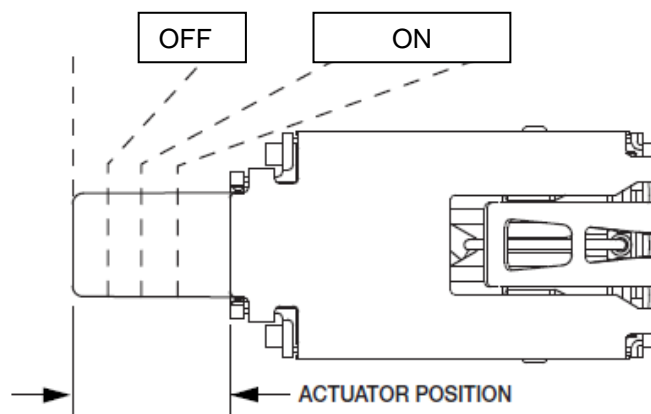

Figure 1 ON/OFF switch
3. Check ON/OFF switch on UniBoard² is in OFF mode (see Figure 1).